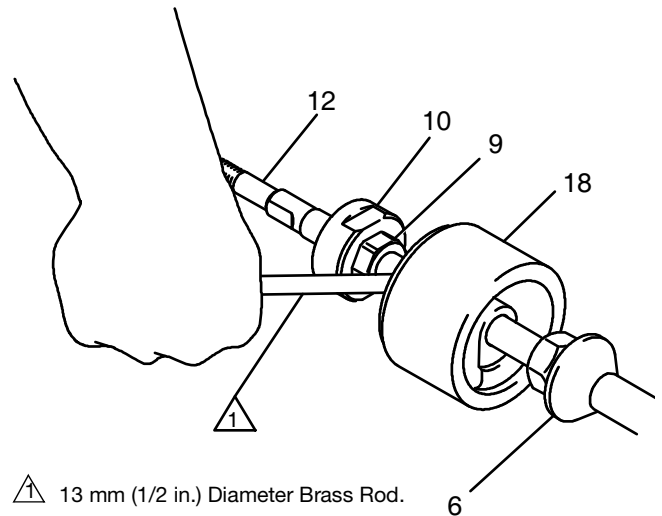

Fig. 7
8. Place the flats of the displacement rod (1) in a vise. Using a 13 mm (1/2 in.) diameter brass rod, pry the intake check valve assembly away from the rod guide (18) far enough to apply wrenches to the valve assembly. See Fig. 7.